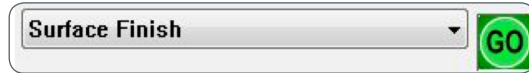

Figure 6: Manual measurement to work out the slope value
- 2 Contact the part just before the steepest point, select 'Surface Finish' in Ultra and click 'go' (see Figure 6).